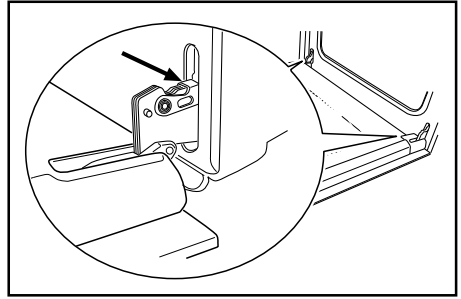

Fig. 9
- 2) locate the two door hinges (Fig. 9);